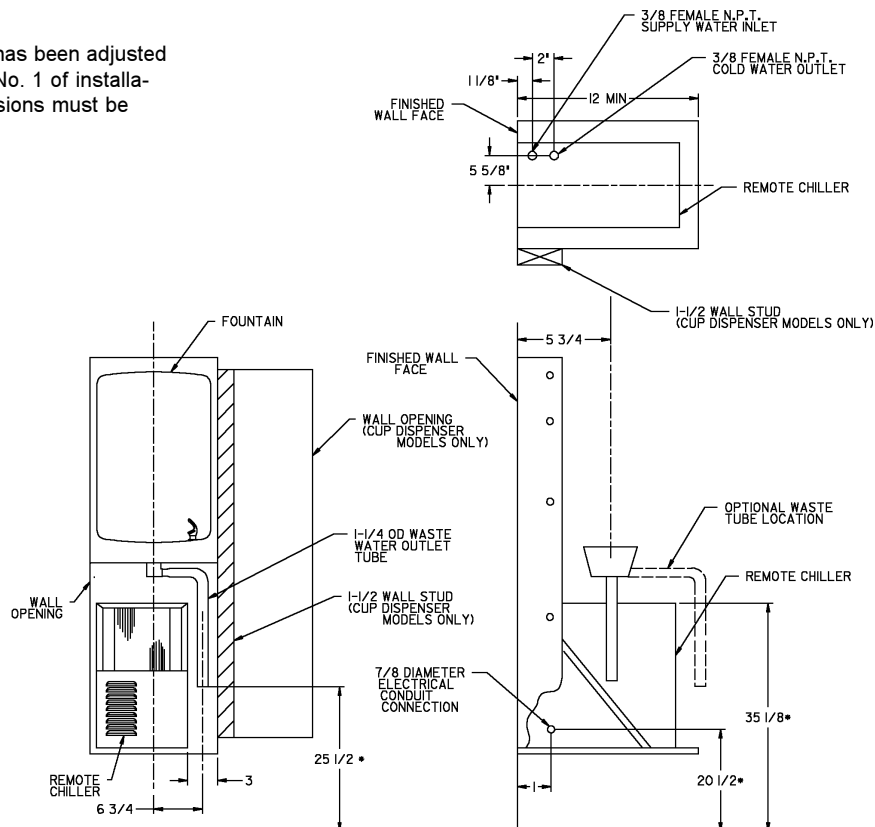
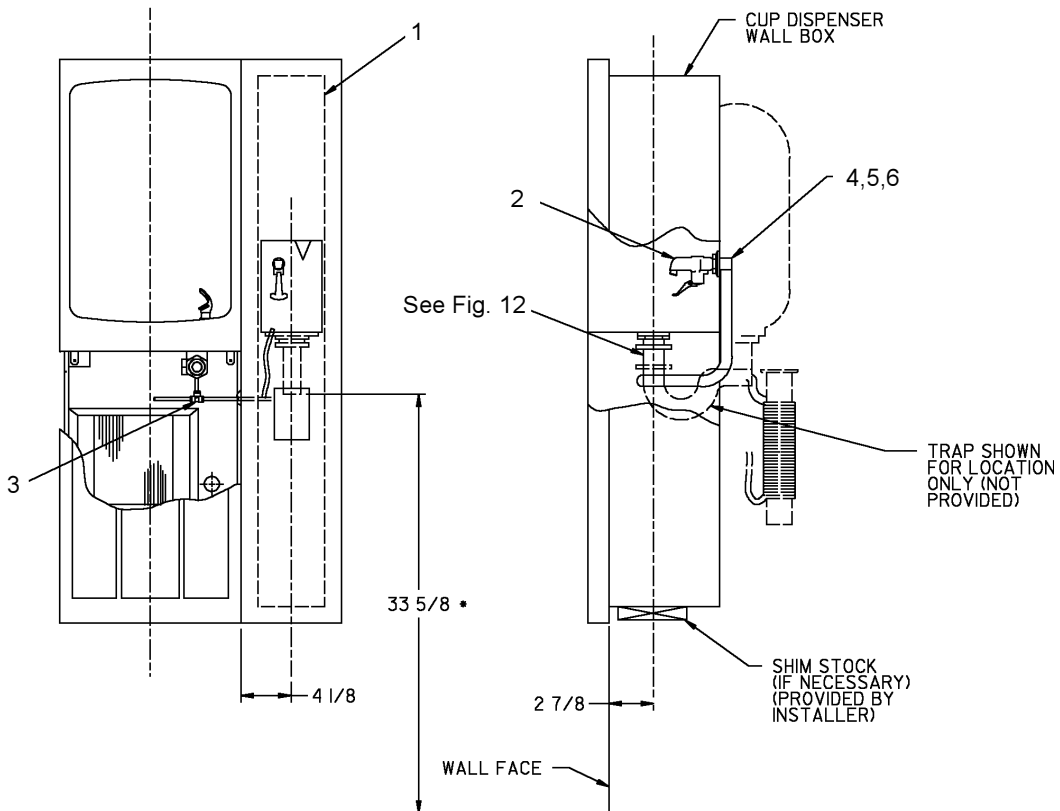

FIG. 5
FIG. 13
3. Install rough plumbing to fountain. See Fig. 5 for location of supply water inlet to chiller and location of waste water outlet.
4. (Cup dispenser Models) Install rough plumbing to cup dispenser. See Fig. 13 for location of waste water outlet.
6. Install wall frame assembly in wall opening with front edge of frame flush with finished wall face. Secure frame through holes in top and sides to wall support members with 5/16" diameter fasteners (bolts or lag screws) as required by wall constructions. (14) bolts/screws required. CAUTION: DO NOT USE LESS THAN REQUIRED QUANTITY AND SIZE (DIAMETER) OF FASTENERS.
8. Install electrical conduit. Fig. 5 shows electrical conduit connection location.